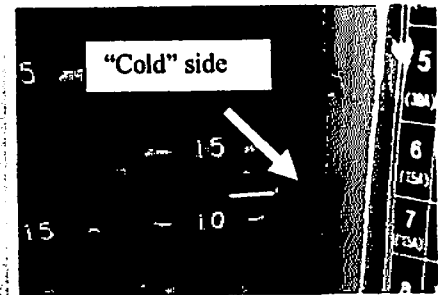

Figure 3
- Check and determine that the heating elements will fit under the seat trim covers in the desired areas. The listing channels or the Velcro hold-downs should line up with the cutouts in the heating elements. This is not important if the heating elements do not cross over a listing channel or Velcro hold-down. See figure 3.